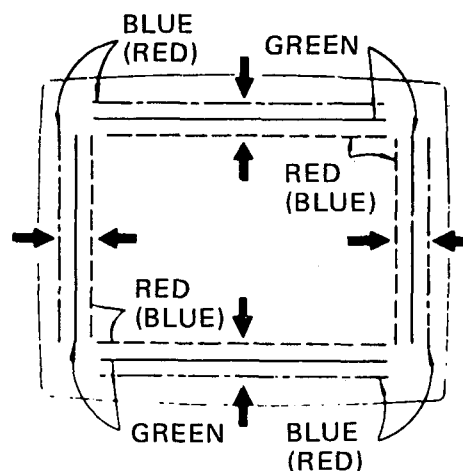

Figure 18
4. Tilt the deflection yoke right and left. Insert tilt adjustment wedge ③ between the deflection yoke and the CRT until the misconvergence illustrated in Figure 18 has been corrected.